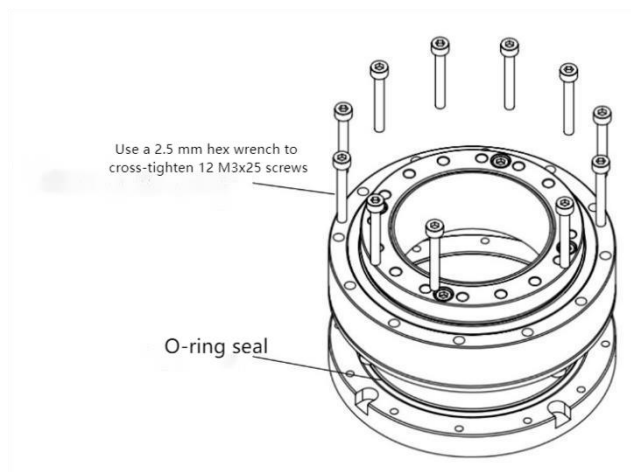

Figure 3-28 Fixed end fastener screw
Step 4 Replace the new reducer. As shown in Figure 3-28, check the O-ring and cross lock 12 M3x25 screws with a locking torque of 2.5N·m. The screws need to be coated with thread glue when locked.